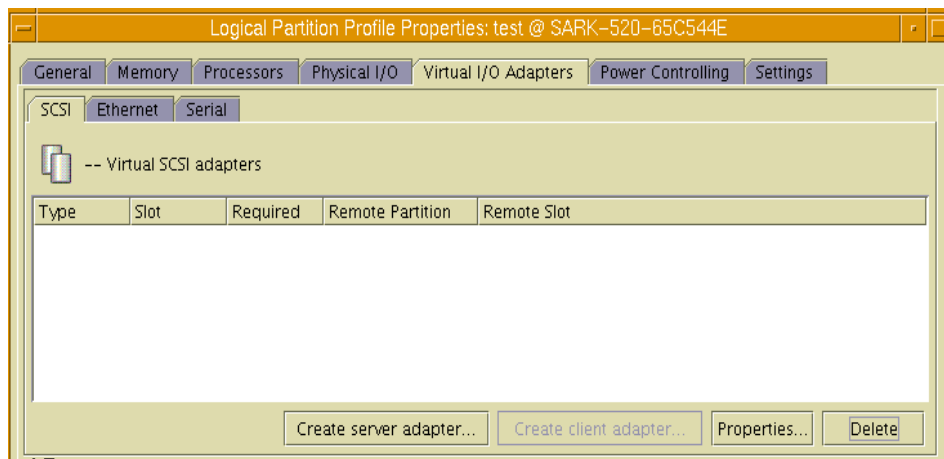

Figure 4-21 Click on "Create server adapter" icon
2. Create the Virtual SCSI in the VIO server's profile. Click on the "Create server adapter" icon as shown in Figure 4-21.